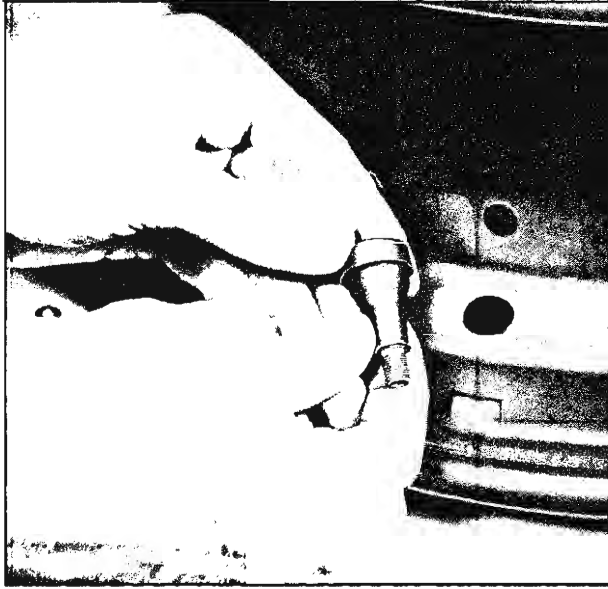

Fig. 51—Installing Valve
3. Coat O.D. of new valve assembly liberally with the mounting compound (fig. 51).